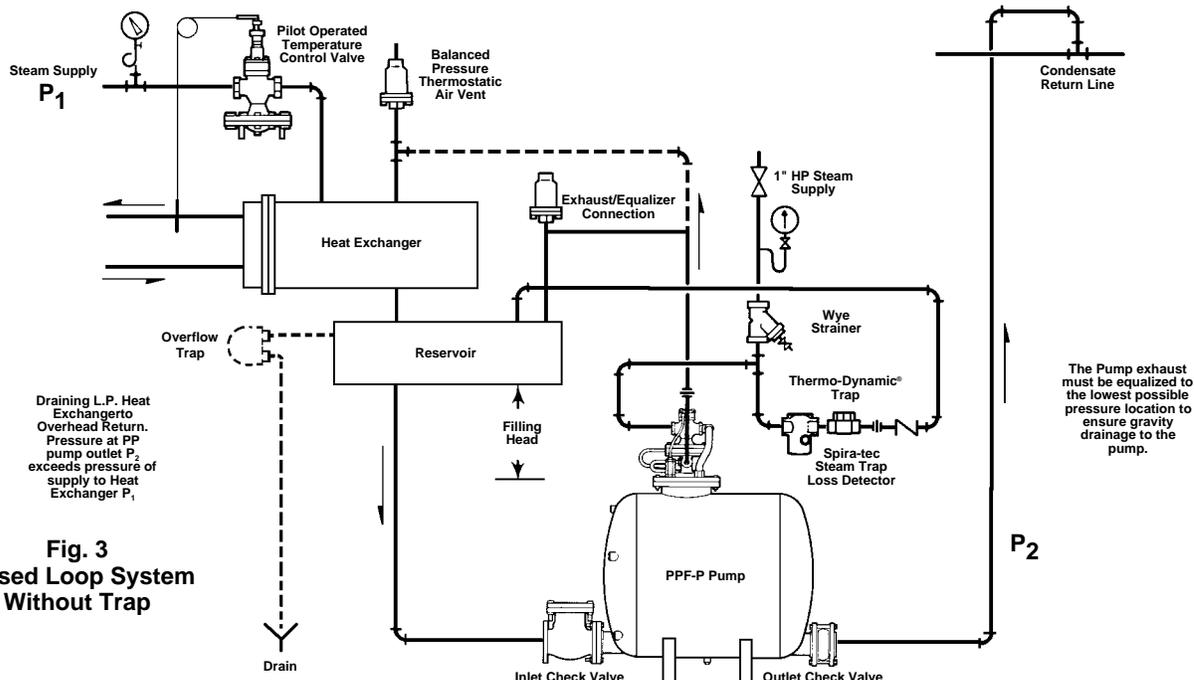

Fig. 3
Installation — Closed Loop Systems (Figs. 3 or 4)
1. Install the pump and reservoir physically below the equipment to be drained. Pump should be installed with the recommended filling head (the vertical distance between the top of the pump body and the bottom of the reservoir) as shown in Fig. 3.
2. To prevent equipment flooding during the pump discharge stroke, a reservoir should be installed in a horizontal plane ahead of the pump as shown in Fig. 3. For minimum reservoir sizing, refer to "Inlet Reservoir Piping" table shown below. All inlet pipe fittings between pump and reservoir must be fully ported.